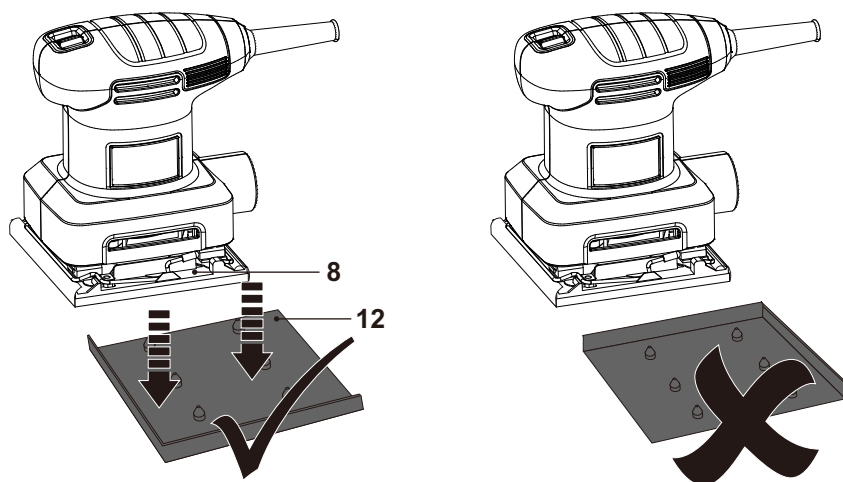

Fig. 8
- > Align the base plate (8) with a fitted sanding paper to the hole punch (12). Ensure that the edges of the base plate (8) are flush with the rim of the hole punch (12).
- > Press the product into the hole punch (12) (Fig. 8).